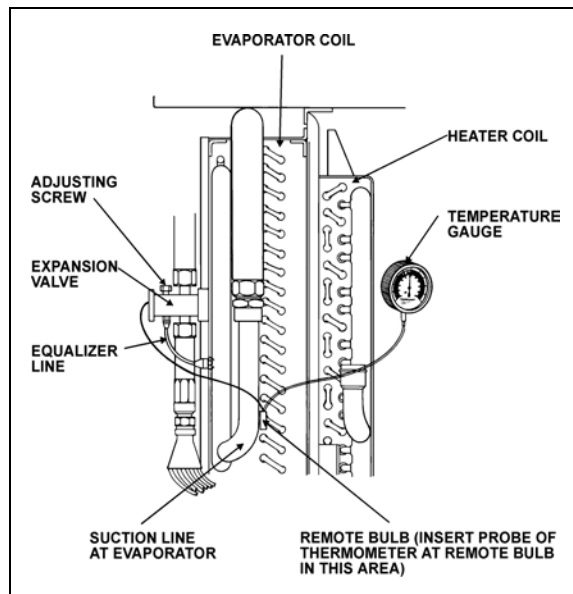

FIGURE 33: SUPERHEAT ADJUSTMENT INSTALLATION²²⁰⁴⁶
The expansion valve for the cabin or passenger's section HVAC unit is a thermo-sensitive valve with a remote control bulb head attached to the evaporator outlet line and is accessible by the evaporator coil access door (Fig. 33). The valve regulates the flow of refrigerant liquid into the evaporator coils and is controlled by the suction gas temperature leaving the evaporator. The bulb head senses the refrigerant gas temperature as it leaves the evaporator. High temperature will cause expansion and pressure on the power head and spring. Such action causes the assembly valve to open, allowing a flow of refrigerant liquid into the evaporator.
The starting method of adjusting the superheat is to unscrew completely the main evaporator expansion valve adjusting screw, then screw in 13 turns clockwise for 134A (Fig. 33). Afterwards, the following procedure should be followed:
3. Install a remote reading thermometer to the evaporator outlet line near the existing remote bulb (Fig. 33).